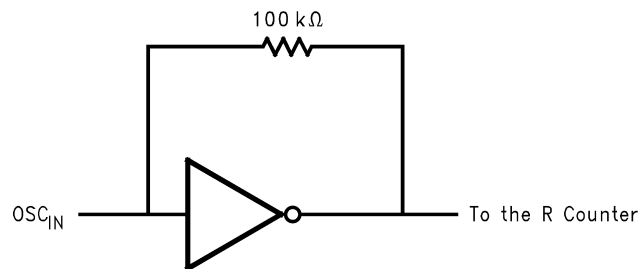

Figure 4.
**50 Ω termination is often used on test boards to allow use of external reference oscillator. For most typical products a CMOS clock is used and no terminating resistor is required. OSC_{IN} may be AC or DC coupled. AC coupling is recommended because the input circuit provides its own bias. (See Figure 4 below.)